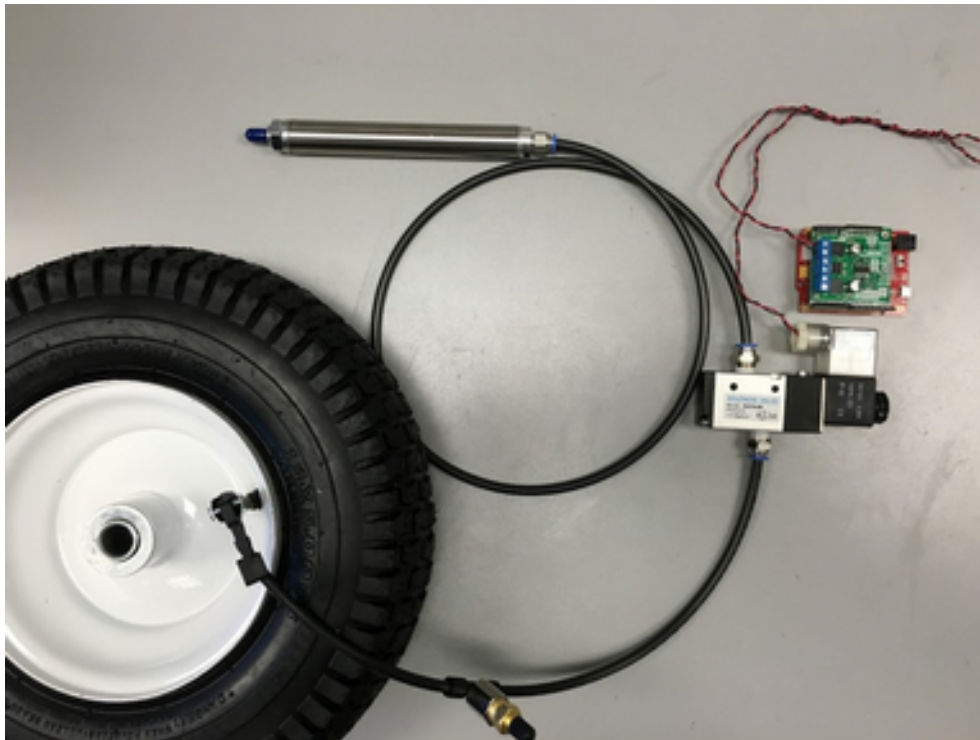

Figure 1: Pneumatic connections between: tire, T-connector, solenoid valve, and pneumatic piston. Electric connections between: solenoid valve and Arduino.
1. You should start with the pneumatic setup we worked on the last hour of the previous lab (see Figure 1). Inflate your tire to 30 psi using the bike pump. **Make sure the system does not have any leaks! Tighten up the push-to-connect fittings and the Schrader valve adapter using an adjustable wrench.**